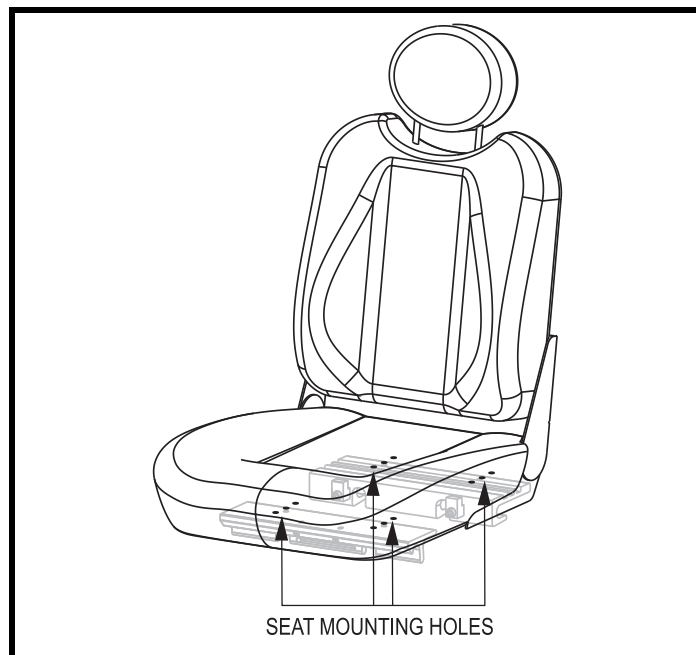

Figure 22. Universal Mounting System
5. Reposition the extrusions on a different set of mounting holes. **See figure 22.** You must move both extrusions the same number of holes either forward or rearward.